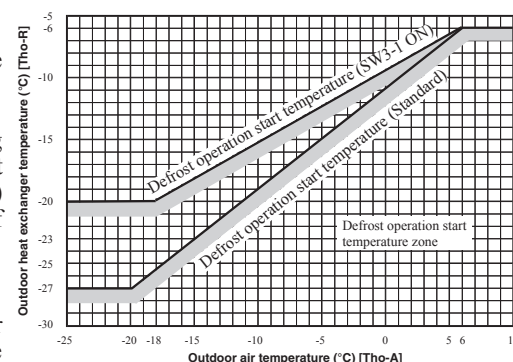

Fig 4-1
- iv) After satisfying all above conditions, if the outdoor heat exchanger temperature (Tho-R1, Tho-R2, whichever the lower) and the outdoor air temperature (Tho-A) become lower than the defrosting start temperature as shown in Fig 4-1 for 15 seconds continuously. Or suction gas saturated temperature (SST), which is detected by the low pressure sensor (LPT), and the outdoor air temperature (Tho-A) stay for 3 minutes within the temperature range lower than the defrosting operation start temperature as shown Fig 4-2. However it is not effective during 10 minutes after the start of compressor and if the outdoor air temperature is within the range of LPT invalid as shown in below figure.